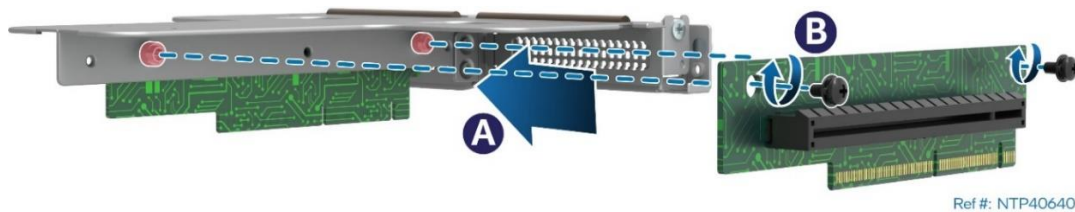

Figure 79. Riser Card Installation
8. Install the riser card to the riser card bracket (see Figure 79).